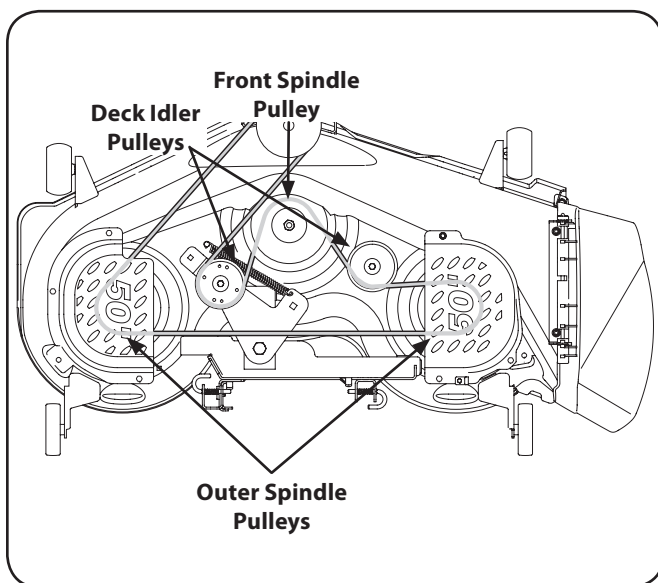

Figure 7-8
4. To place the new belt begin by routing the belt around the two outer spindle pulleys, then around the front spindle pulley as shown in Fig. 7-8.
5. Then route the belt around the two deck idler pulleys as shown in Fig. 7-8.